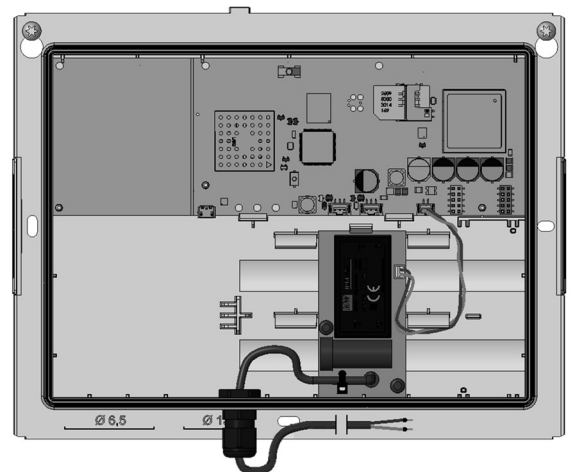

Fig. 1 Gateway inside view
- Plug the bottom of the power pack circuit board into the recess on the inside of the case (see Fig. 1 for the position of the power pack). Press the circuit board into the case till the safety latch will fix it.